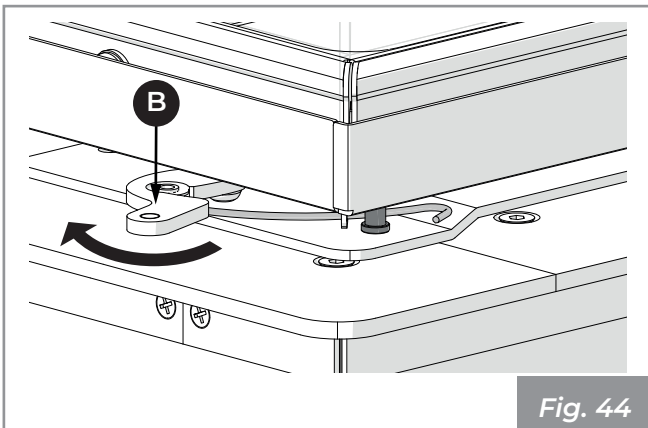

Fig. 44
- 5) Push lever (B) and return it to the locked position (Fig. 44).